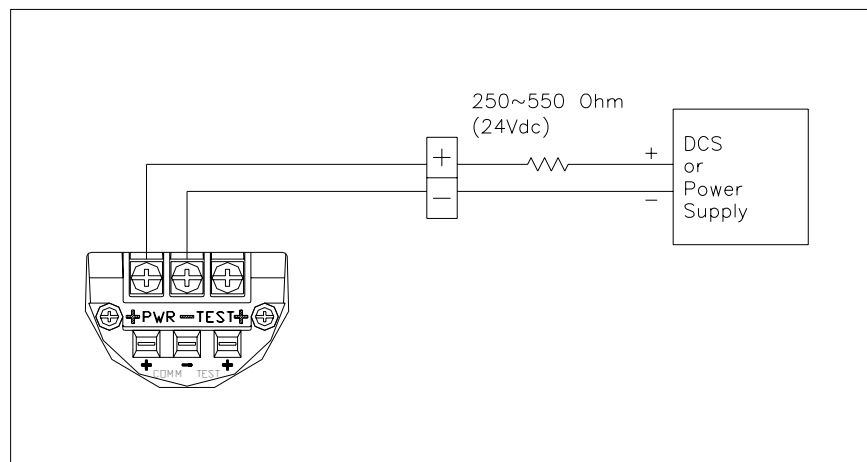

Figure 4-2 Connection with Terminal Board of Transmitter
(7) You have to connect 250~600 W Loop Resistor in Current Loop(between Power Supply and Transmitter) for HART Communication HART. Following Figure 4-2 about conection of Current Loop.